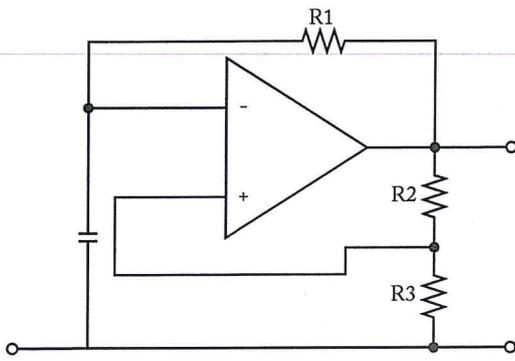

Figure 1-124. Positive feedback network used in a multivibrator circuit.
*Figure 1-124* is an op-amp with a resistive-capacitive (RC) coupling that uses positive feedback in a voltage comparator to form a free-running multivibrator or oscillator. In this example, the output voltage is divided between  $R_2$  and  $R_3$ , and a fraction of that voltage is fed back into the non-inverting (positive) input as a reference voltage. The capacitor is charged through  $R_1$  until  $V_1 > V_2$  at which time the op amp switches to